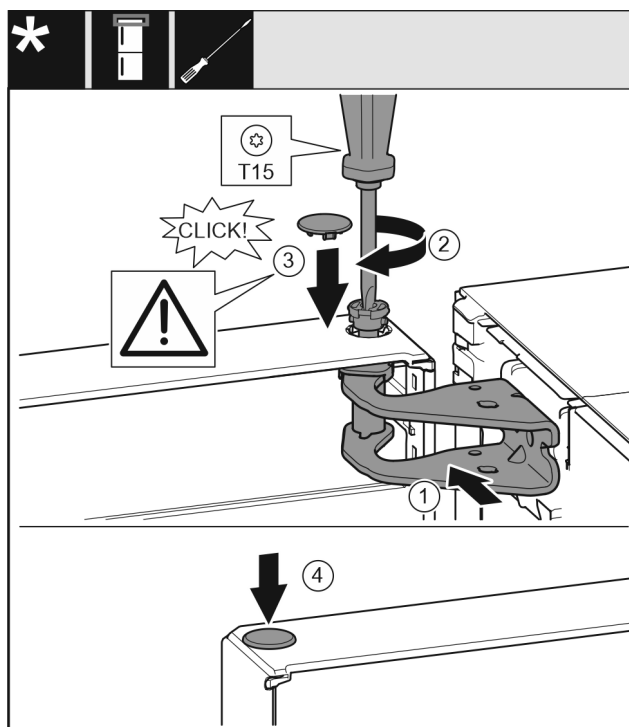

Fig. 18
- ▶ Align the top of the door with the opening in the bearing bracket. Fig. 18 (1)
- ▶ Insert the bolt and tighten with a T15 screwdriver. Fig. 18 (2)
- ▶ Fit the protective cover to protect the door: Insert the protective cover and check that it is flush to the door. If not, insert the bolt fully. Fig. 18 (3)
- ▶ Insert the plugs. Fig. 18 (4)